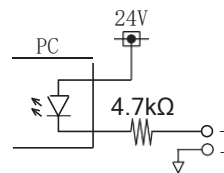

Figure 2
*2 Equivalent circuit is as the figure shown below. Connect allowable contacts (10mA or more) to two terminals.(Figure 2)